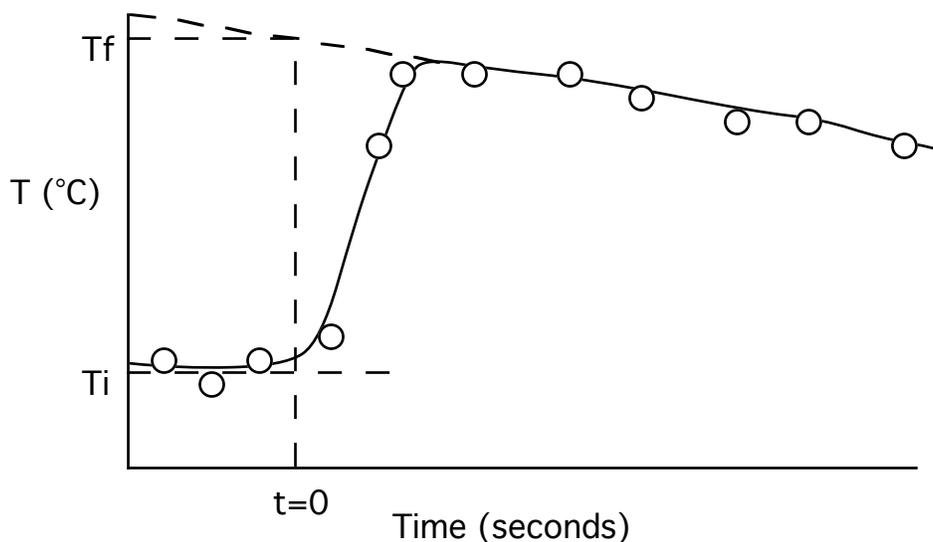

Figure 1. Determining T_f from a plot of temperature as a function of time.
Because no calorimeter is free from heat leaks, it is possible that you will see some heat loss to the surroundings reflected in your data. Figure 1 shows a temperature vs. time plot for a calorimetric experiment in which the reaction was exothermic. After the initial sharp rise in temperature when the reaction is begun (at time of mixing, $t = 0$ seconds), the temperature begins to decrease due to heat loss from the calorimeter. As the temperature equilibrium becomes complete, the loss becomes steady and the
Allow the computer to continue to collect data as you swirl the calorimeter until the temperature has reached its maximum and starts to decline as in Figure 1 (p. 4). You should collect data for about 5 minutes. When you have collected a sufficient amount of data, click on the **red button** to stop the data collection. Remove the temperature probe from the solution in the cup and rinse it thoroughly with water.
1. Determine the T_f ($\pm 0.1^\circ\text{C}$) from your plot for *Measuring* (C_p, cal) by the extrapolation method shown in Figure 1. Calculate the heat capacity, (C_p, cal), of the calorimeter using **Eq. 9**. This value is usually small (less than 20 J/Kelvin or 0.020 kJ/Kelvin). It is such a small value that it is of the same order of magnitude as the experimental error; consequently, the calculation could yield a small negative number. Should this be the case, simply assign (C_p, cal) the value of 0.0 kJ/Kelvin.
1. Explain why the final temperature, T_f , must be extrapolated from the plot (see Figure 1). Why can you not simply use the maximum temperature recorded?